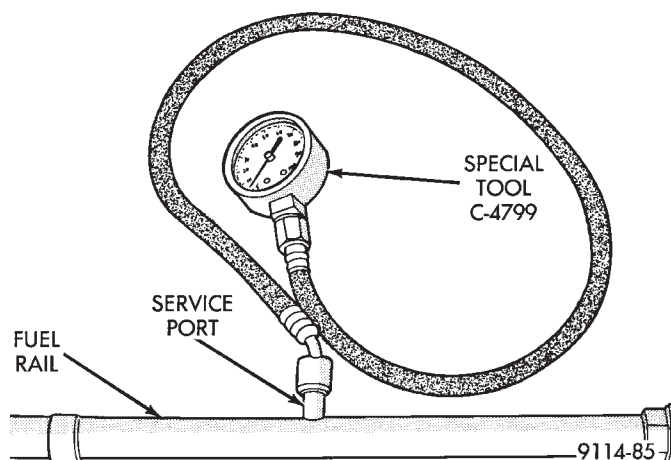

Fig. 4 Fuel Pressure Testing—Engines With Service Ports
(1) Remove the vacuum hose from the pressure regulator before checking fuel pressure.
(2) Release fuel system pressure. Refer to the Fuel System Pressure Release procedure in this group.
(3) Connect Fuel Pressure Gauge C-4799 to service port on fuel rail (Fig. 4).